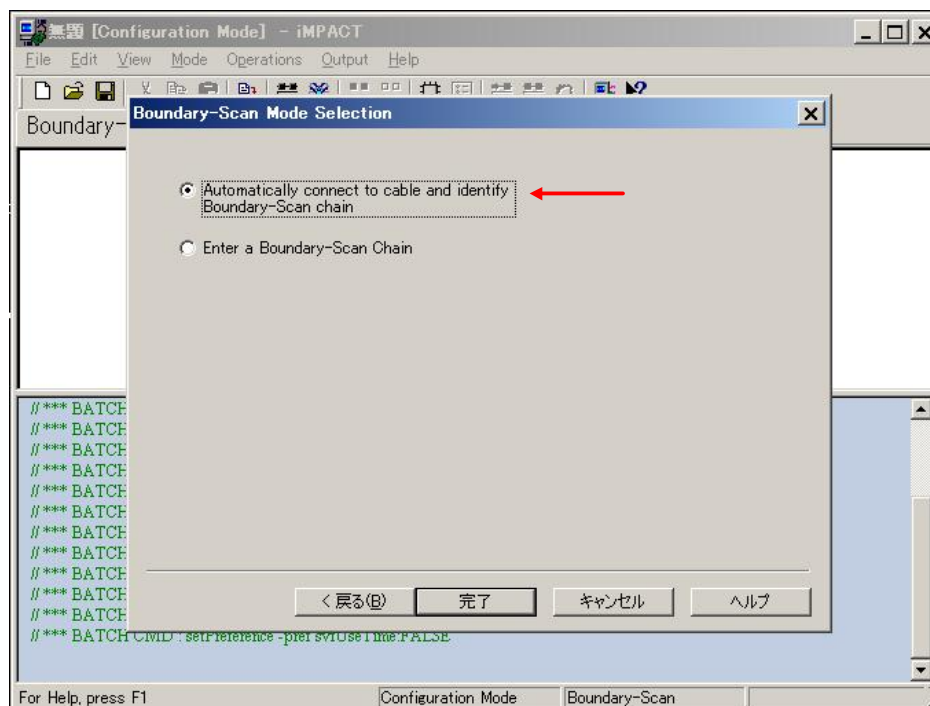

Figure.30
4) On Boundary-Scan Mode Selection select Automatically Connect to Cable and Identify Boundary-Scan Chain and then click Complete. Onboard JTAG chains are retrieved (Figure.30).